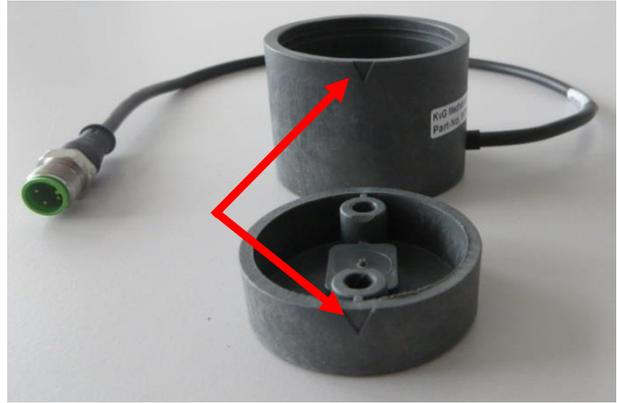

FIGURE 17 TRIANGULAR MARKINGS ON THE 12V WHEEL SENSOR.
1. If the front wheels are straight, the screws of the sensor housing and sensor disc should be aligned with the front axle. It is also important that the sensor disc is rotated in such a way that the triangles in the disc and the sensor housing (Figure 17) are properly aligned. Only then will the wheel angle sensor produce a voltage reading.
14. Remove the strip again from the front axle. Then mount the strip again to the front axle with the aid of M5 X 30 bolts, raised with two nuts and two washers on each side. Mount on the correct side of the strip (Figure 25) and pay attention to the orientation of the disc (Figure 17). The triangular marker must be on the correct side. Make sure the the two nuts and washer are installed on each side!